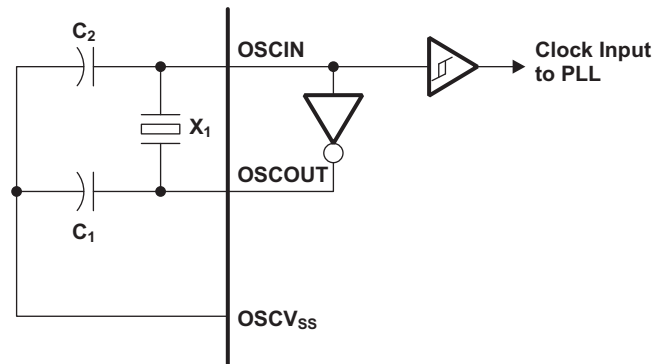
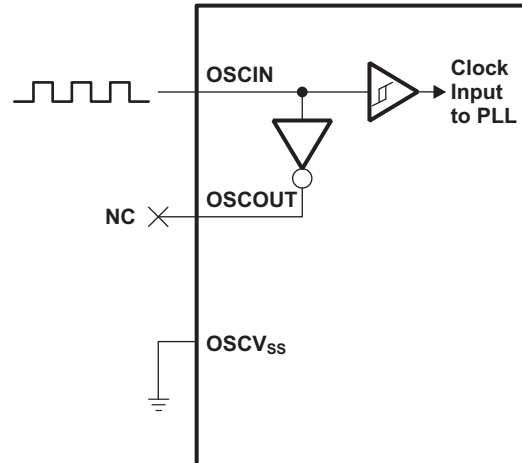

Figure 6-6. On-Chip 1.2V Oscillator
Figure 6-7. External 1.2V Clock Source
The C6745/6747 device includes two choices to provide an external clock input, which is fed to the on-chip PLL to generate high-frequency system clocks. These options are illustrated in Figure 6-6 and Figure 6-7. For input clock frequencies between 12 and 20 MHz, a crystal with 80 ohm max ESR is recommended. For input clock frequencies between 20 and 30 MHz, a crystal with 60 ohm max ESR is recommended. Typical load capacitance values are 10-20 pF, where the load capacitance is the series combination of C1 and C2.
- Figure 6-6 illustrates the option that uses on-chip 1.2V oscillator with external crystal circuit.
- Figure 6-7 illustrates the option that uses an external 1.2V clock input.